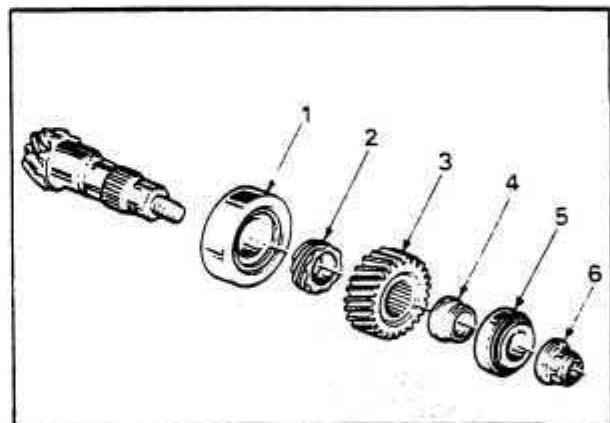

Fig. 75 FINAL DRIVE PINION ASSEMBLY
DIFFERENTIAL PINION GEAR — Fig. 75
- e. If the reading is not within specifications, adjust the pre-load by loosening the pinion nut, remove the pinion gear assembly from the case, and change the thickness of the adjusting sleeve. Fig. 75